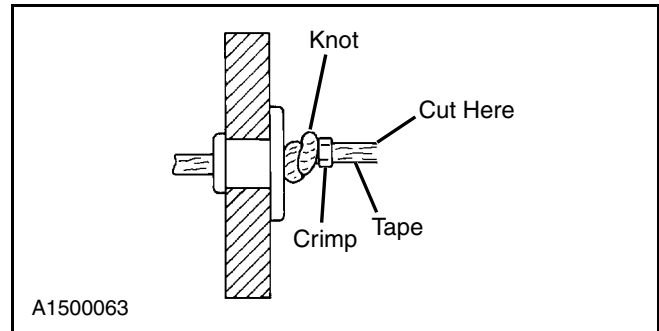

Figure 28
12. Install a crimp next to the knot. Lock the crimp in place by crimping the two sides with a side cutter or other suitable tool. (See Figure 28.)